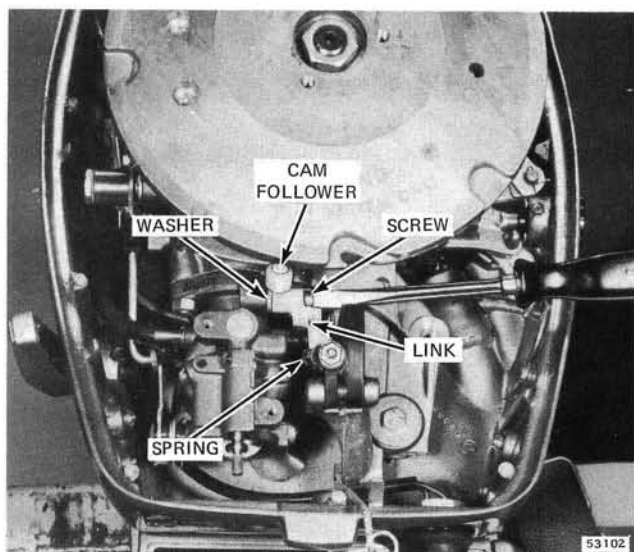

Figure 3-8. Removing Cam Follower
e. Remove cam follower, shoulder screw and washer, and disengage lever from link and starter lock-out pawl spring. See Figure 3-8. Observe position of link in cam follower lever.
e. Attach cam follower to carburetor with shoulder bolt and spacer washer. Connect starter lock-out pawl spring. See Figures 3-8 and 3-10.